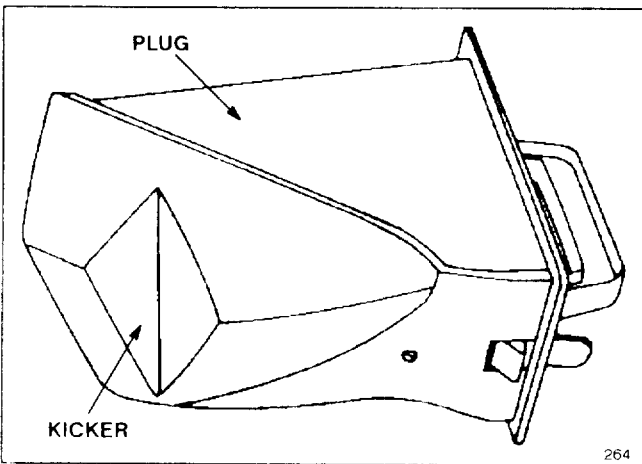

Figure 9
- A plug which locks into the mower's discharge tunnel (a fifth kicker is on the plug) (Fig. 9)
It is possible to mow without using the plug by closing the discharge tunnel door. However, your lawn appearance will be much more satisfactory if you use the plug as it has an additional kicker (Fig. 9) that helps drive the clippings down into the grass.